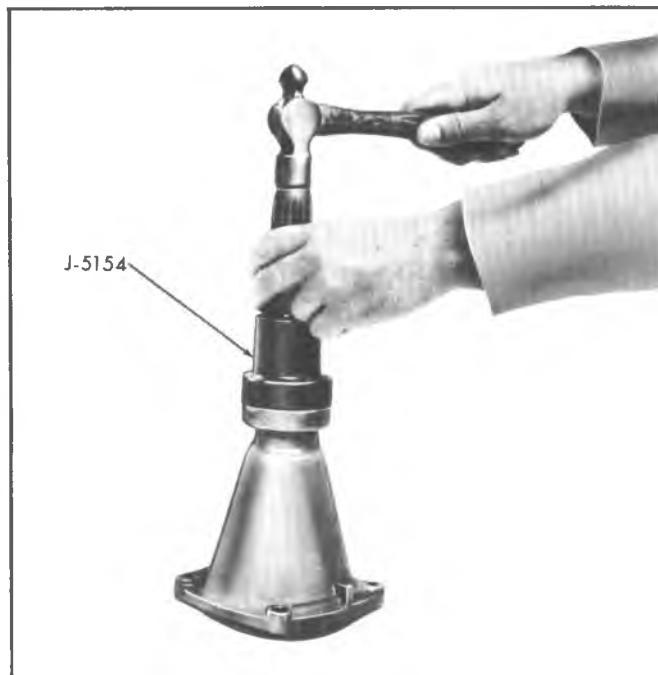

Fig. 100N--Installing Extension Housing Seal
6. If necessary, install a new extension housing seal using seal installer J-5154 or J-21426 (fig. 100N).